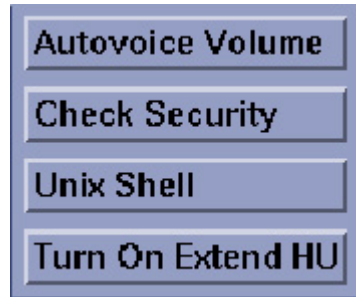

Figure 5-18 Turn On Extend HU
- 1.) For all LightSpeed RT Systems: Click on the TURN ON EXTEND HU button. See Figure 5-18